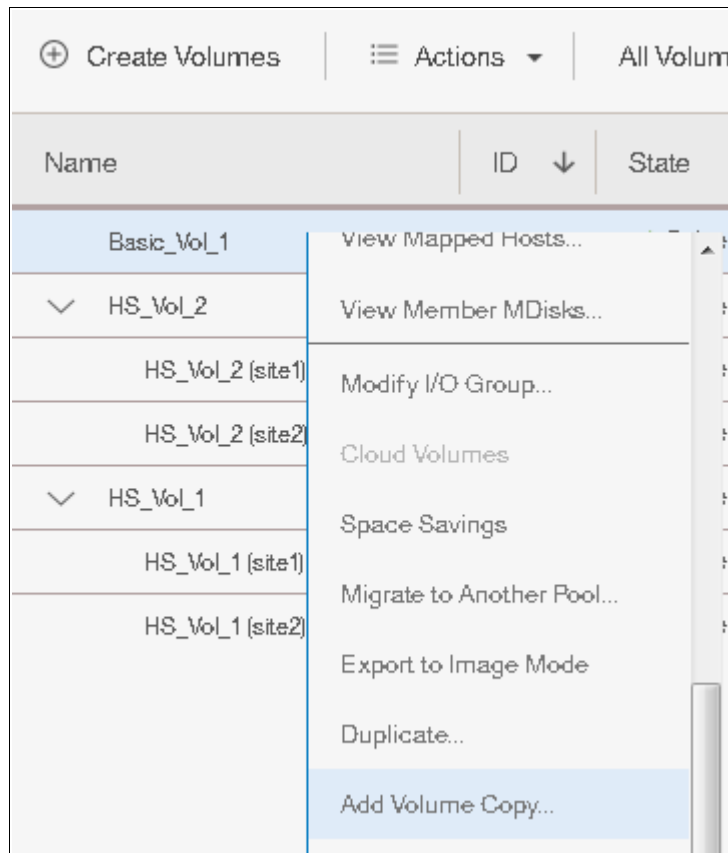

Figure 6-25 Add volume copy
1. Use the **Add Volume Copy** option from the context menu of a basic volume (Figure 6-25).